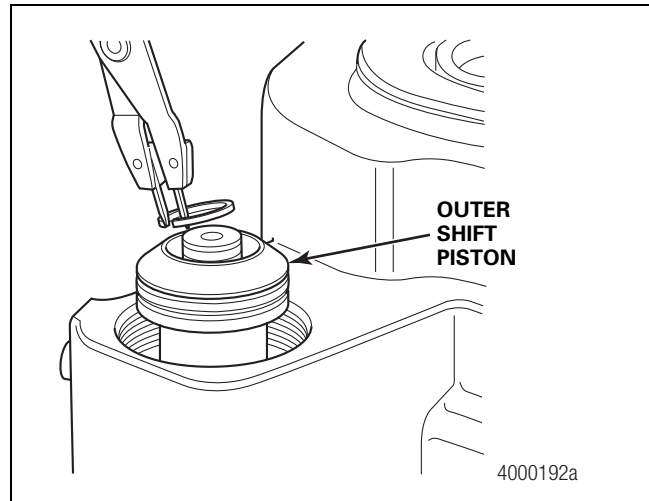

Figure 6.33
4. Install the outer shift piston outer snap ring onto the shift shaft. Figure 6.33.